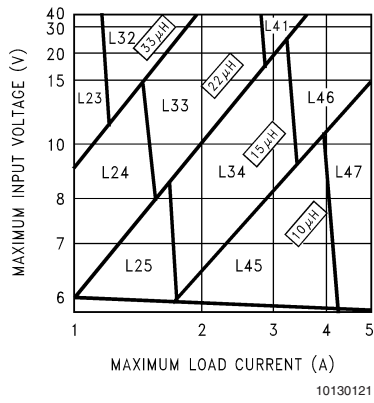
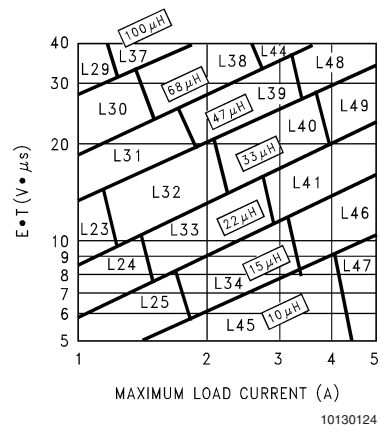

FIGURE 3. LM2677-3.3
FIGURE 6. LM2677-ADJ
Step 3: Determine the inductor required by using one of the four nomographs, *Figure 3* through *Figure 6*. Table 1 provides a specific manufacturer and part number for the inductor.
Step 5: Determine an input capacitor from Table 4 for fixed output voltage applications. Use Table 2 to find the specific capacitor type. For adjustable output circuits select a capacitor from Table 2 with a sufficient working voltage (WV) rating greater than $V_{in\ max}$, and an rms current rating greater than one-half the maximum load current (2 or more capacitors in parallel may be required).
Step 3: Use the nomograph for the 3.3V device, *Figure 3*. The intersection of the 16V horizontal line ($V_{in\ max}$) and the 2.5A vertical line ($I_{load\ max}$) indicates that L33, a $22\mu H$ inductor, is required.
Step 3: To use the nomograph for the adjustable device, Figure 6, requires a calculation of the inductor Volt•microsecond constant (E•T expressed in V•μS) from the following formula:
Using Figure 6, the intersection of 27V•μS horizontally and the 2A vertical line (I_{load max}) indicates that L38, a 68μH inductor, should be used.
Important Note: When using the adjustable device in low voltage applications (less than 3V output), if the nomograph, Figure 6, selects an inductance of 22μH or less, Table 6 does not provide an output capacitor solution. With these conditions the number of output capacitors required for stable operation becomes impractical. It is recommended to use either a 33μH or 47μH inductor and the output capacitors from Table 6.